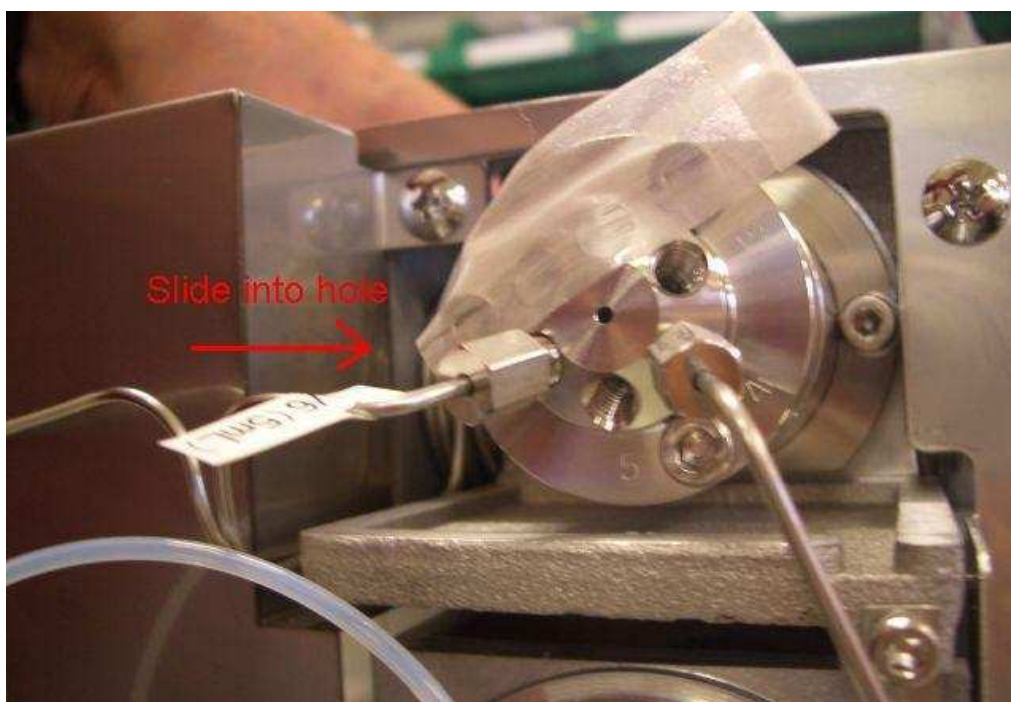

Figure 13: Position of the Sample Loop Next to the Injection Valve.
7. Fit the Sample loop into position firstly by sliding the coiled plumbing into the hole beside the Injector Valve (*Fig. 13*). Then tighten the Nut into position number **6** on the Injector Valve. Fit the other end of the plumbing with the Short Nut to the top of the Injection Needle.